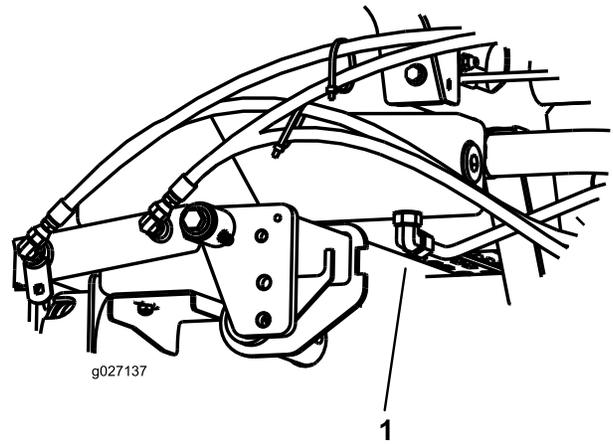

Figure 72
3. Place a large drain pan under the fitting secured to the bottom of the hydraulic-fluid reservoir (Figure 72).